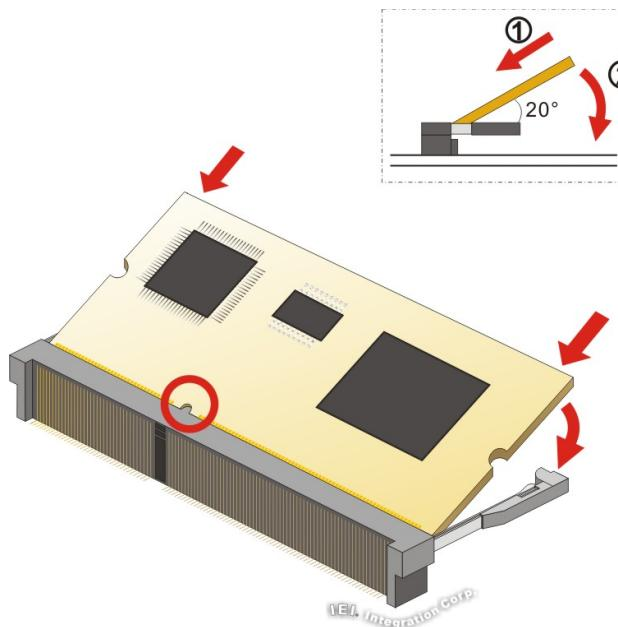

Figure 3-14: iRIS-2400 Module Installation
Step 4: Align the iRIS-2400 module with the iRIS-2400 module slot. Align the notch on the module with the notch on the iRIS-2400 module slot (**Figure 3-14**).
Step 5: Insert the iRIS-2400 module. Push the module in at a 20° angle (Figure 3-14).
Step 6: Seat the iRIS-2400 module. Gently push downwards and the arms clip into place (Figure 3-14).